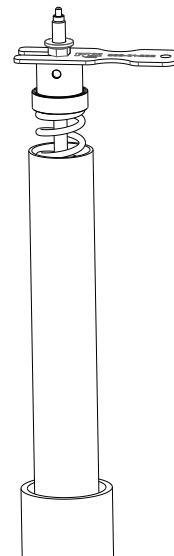

Fig. 14: Remove the cartridge shaft bleed tool.
15. Unthread and remove the cartridge shaft bleed tool (Fig. 13A) from the shaft (Fig. 14).